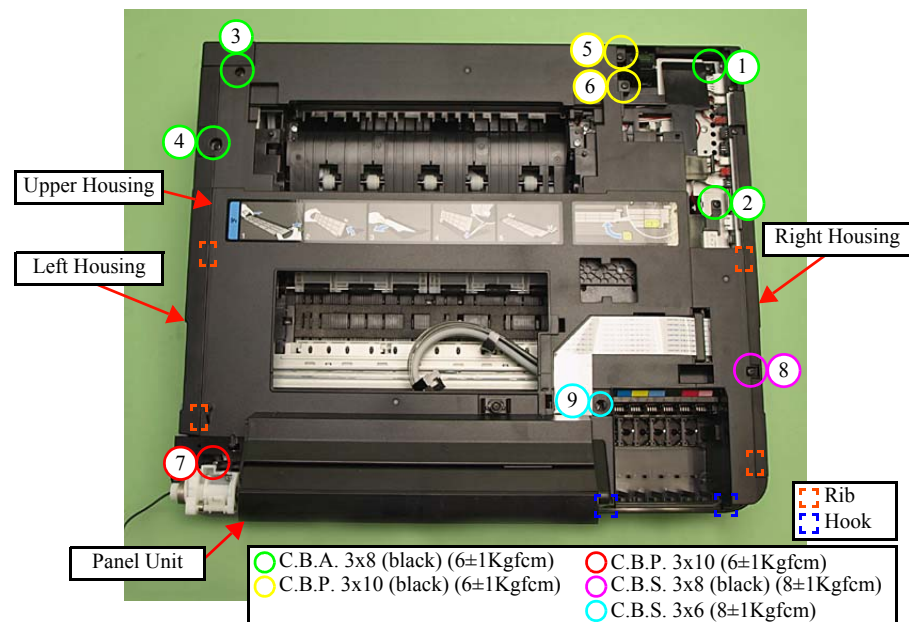

Figure 4-17. Removing the Upper Housing (2)
3. Remove the screws (x9) that secure the Upper Housing. (See Fig. 4-17.)
- Insert the ribs (x4) of the Upper Housing to the inside of the Housing L/R when installing the Upper Housing. (See Fig. 4-17.)
- Tighten the screws in the order shown in Fig. 4-17.